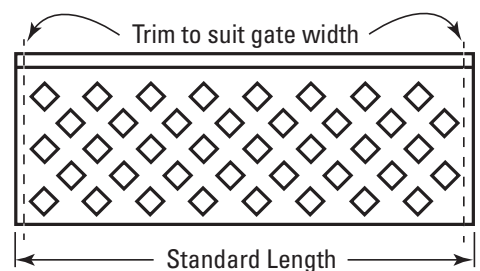

Figure 19.6
- 5) If required, trim the lattice to fit the width of your gate. Equally trim both ends to retain a balanced effect. (Figure 19.6)